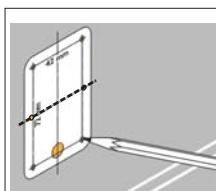

Fig. 1
- 1 - Mark the location of the fixing holes using the drilling template supplied with the photocells (Fig. 1);